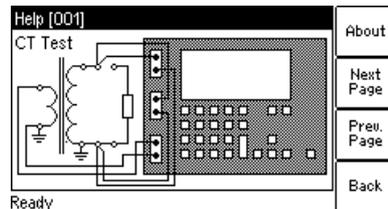

Figure 7-9 Wiring diagram for residual magnetism measurement and CT testing
3. Connect the CT to the *CT Analyzer* as shown in Figure 7-9 using the 4-wire method (i.e., using two clamps for each side). Connect the black sockets of the *CT Analyzer* to the grounded side. Be sure that the polarity of all wires is correct.